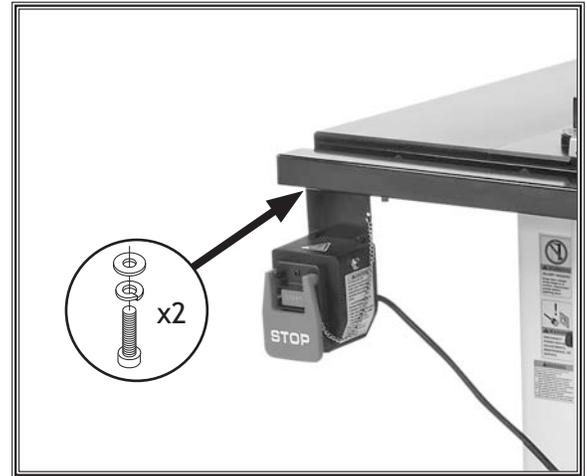

Figure 23. Switch installed.
- Attach the switch to the bottom left-hand side of the front rail using (2) M5-.8 x 12 cap screws, (2) 5mm lock washers, and (2) 5mm flat washers (see Figure 23).